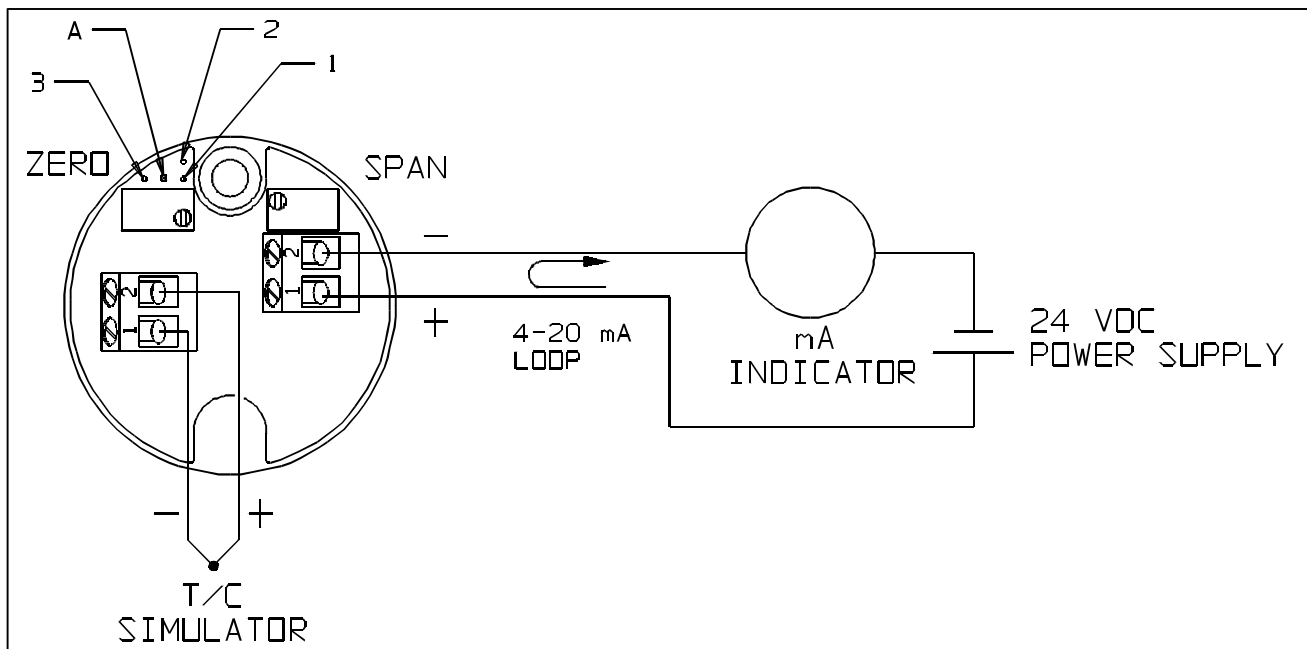

Figure 1
3. Bend over the lead designated 1, 2, or 3, depending on selection from table, to the A lead and solder. See Figure 1 below. For the above example, lead 2 should be soldered to lead A.
4. Connect a power supply of 24 VDC, and a digital milliammeter (5-1/2 digit preferred) as shown in figure 1, or use a loop calibrator instead of the DC supply and milliammeter.